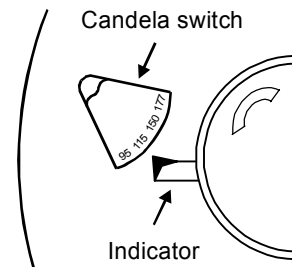

Figure 4: Candela switch
4. Slide the candela switch to the desired candela output (95, 115, 150, or 177 cd) by aligning it with the indicator below the switch. See Figure 4.